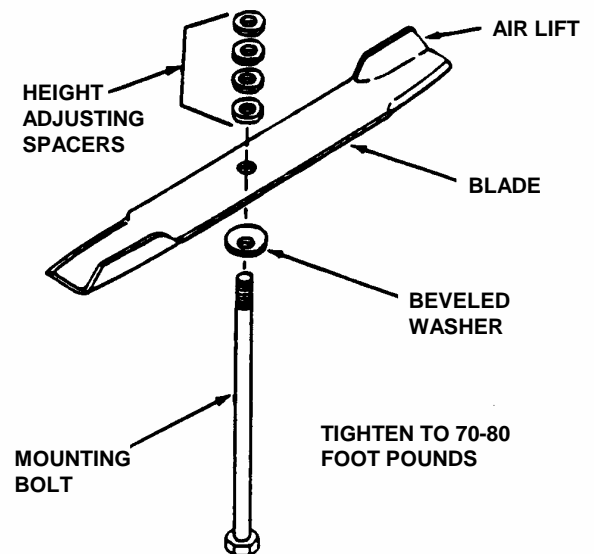

FIGURE 5.6
10. Install the Blade mounting nut on each Blade mounting bolt. See Figure 5.6.